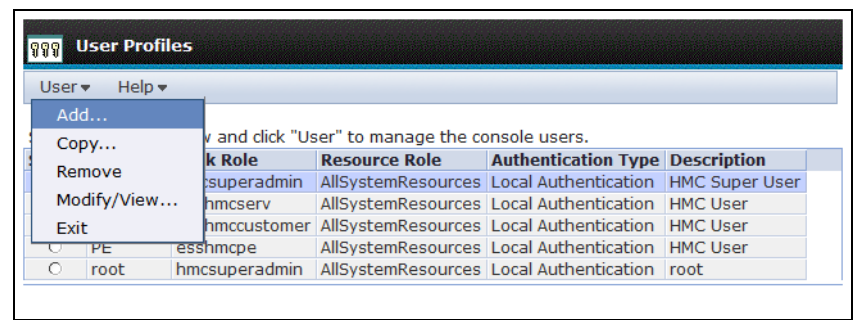

Figure 6-21 User Profiles option menu
1. Click **User** to open the User Profiles option menu, as shown in Figure 6-21.